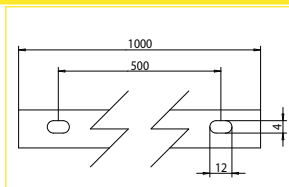

Abb. 1a Position der Schlitz
A.A.G. Stucchi ONETRACK® system is a 3 phase mixed system with two additional conductors intended to manage a general data signal (for example dali, dmx, lon, eib, etc.). The system is EN 60570 certified and its installation must be accomplished by highly qualified person. There are four possible installation systems: directly on ceiling or on wall, using the mounting holes (fig 1a) on the track (use a countersink head screw, pic.1b), on ceiling or on wall using a metal clip (code S-9000/III), hanging by the suspension (see the catalog) or recessed without exceeding the maximum loads (pic. 2). During the wiring the electrical the scheme of pic. 3 must be followed.